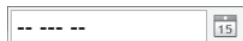

Figure 28. Calendar button.
1. If needed, press the **Calendar** button to open the date entry control to select the date (Figure 28).